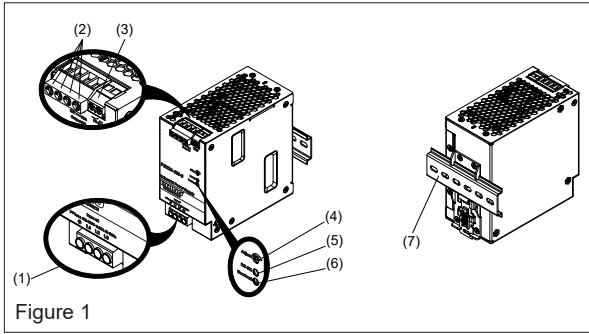

Figure 1
2. Device description (Fig. 1)
4.1. Input connection (Fig. 1, Fig. 6)
Use L1, L2, L3 and PE connections of input terminal connector (see Fig. 1 (1)) to establish the 3 x 400-500 VAC connection. Fig. 6 shows the connection to the various network types.
4.2. Output Connection (Fig. 1 (2))
Use the "+" and "-" screw connections to establish the 24 VDC connection. The output provides 24 VDC. The output voltage can be adjusted from 24 to 28 VDC on the potentiometer. The green LED DC OK displays correct function of the output (Fig. 1 (4)). The device has a short circuit and overload protection and an overvoltage protection limited to 32 VDC.